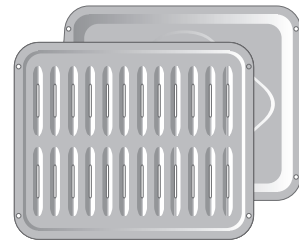

Figure 22: Broil pan and insert
- Do not use the broiler pan without the insert (Figure 22). Do not cover the broil pan or insert with aluminum foil; the exposed grease could ignite. The insert is slotted and allows hot grease from the meat to drain away into the broiler pan.